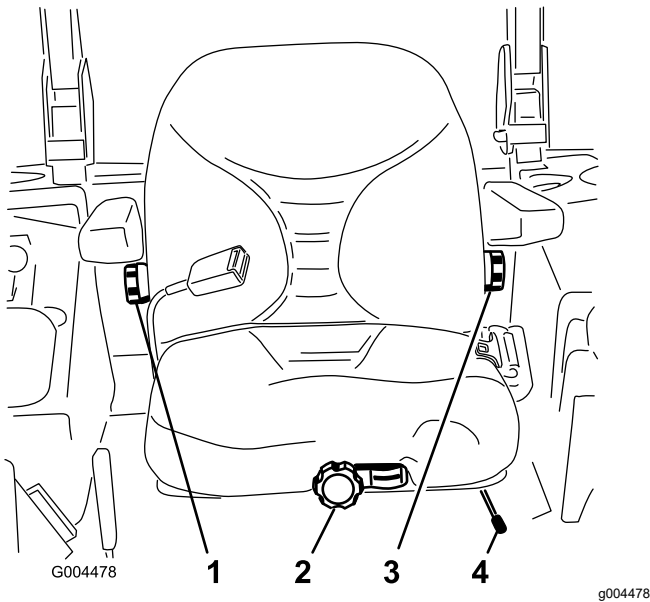

Figure 14
1. To adjust the seat, move the lever sideways to unlock the seat (Figure 14).
To adjust the back of the seat, turn the knob, located under the right-side armrest, in either direction to provide the best comfort (Figure 14).
To adjust the back of the seat, turn the knob, under the left-side armrest, in either direction to provide the best comfort (Figure 14).